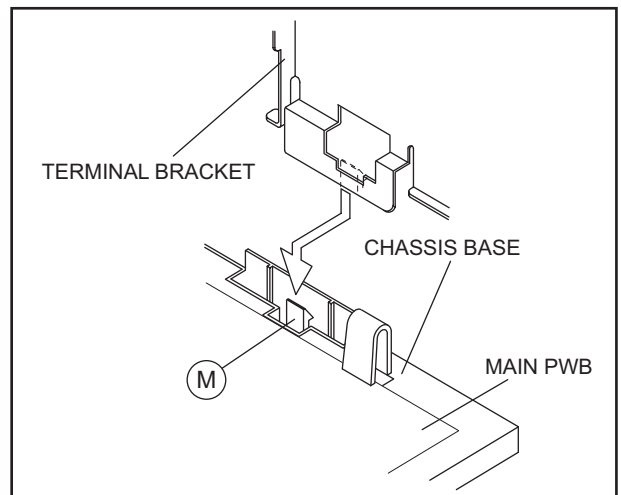

Fig.3
- (8) As shown in Fig.3, raise the claw [M] positioned back side of the CHASSIS BASE, and lift the TERMINAL BRACKET from the CHASSIS BASE.
- (9) Slightly shift the TERMINAL BRACKET rearward and raise it upward to remove it.